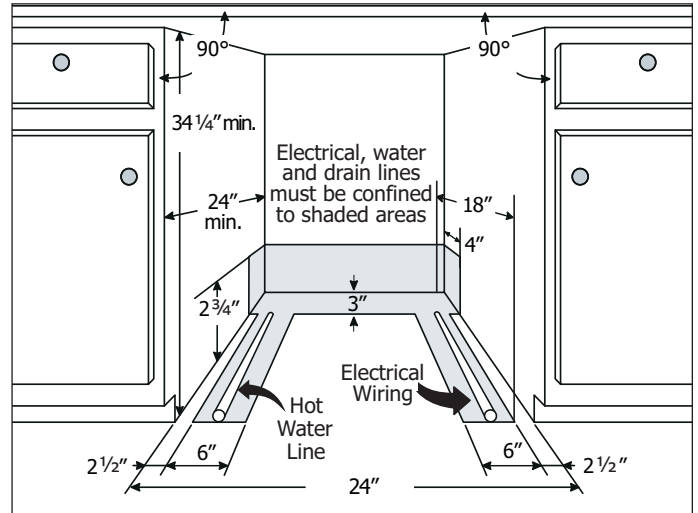

Figure 2-1.
Electrical, water, and drain lines must be confined to shaded areas in Figure 2-1. Electric conductors, water, and drain could be damaged. Failure to follow these instructions could result in fire or electric shock.
For proper operation and appearance of unit, cabinet opening should have dimensions as shown in Figure 2-1. If unit is to be placed in a corner, there must be at least a 2-inch side clearance to open door.
2. Note locations of electrical supply and dishwasher's electrical junction box on right underside of unit behind kickplate assembly. (See Figure 2-1).
3. Cut access hole in shaded area shown in Figure 2-1.
4. Cut water access hole in shaded area in Figure 2-1.